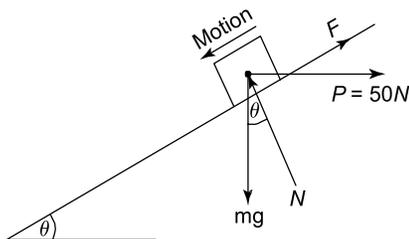

Figure 16.12
The primary forces for this problem are shown in Figure 16.12, where it can be seen that F is opposite to the direction of motion.
11. Determine the value for θ which will just cause motion down the plane, when $P = 250 \text{ N}$ and acts in the direction shown in Figure 16.12. It should be noted that in this problem, motion is down the plane, $\mu = 0.5$ and $m = 50 \text{ kg}$. [$\theta = 53.58^\circ$]